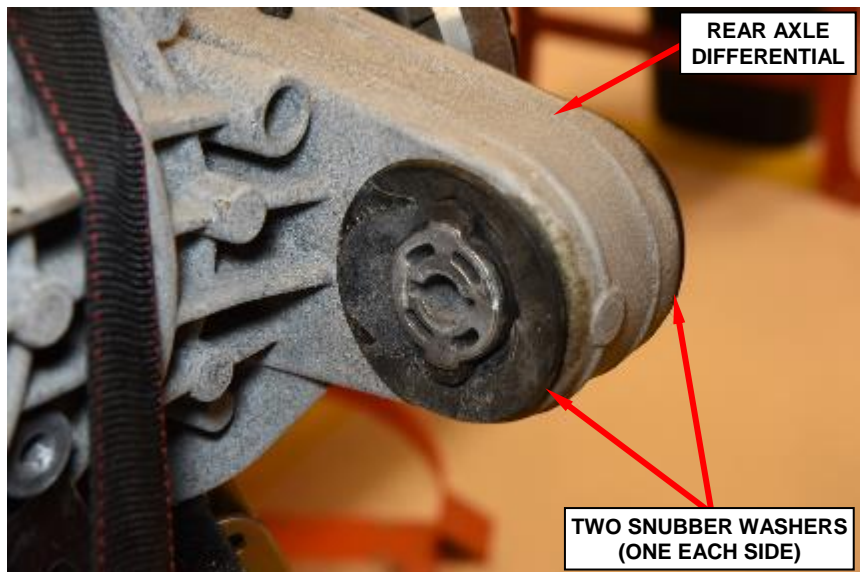

Figure 20 – Snubber Washers
16. Remove and save the two rubber snubber washers from the differential mount (Figure 20).
19. Install the rubber snubber washers to the differential mount (Figure 20).